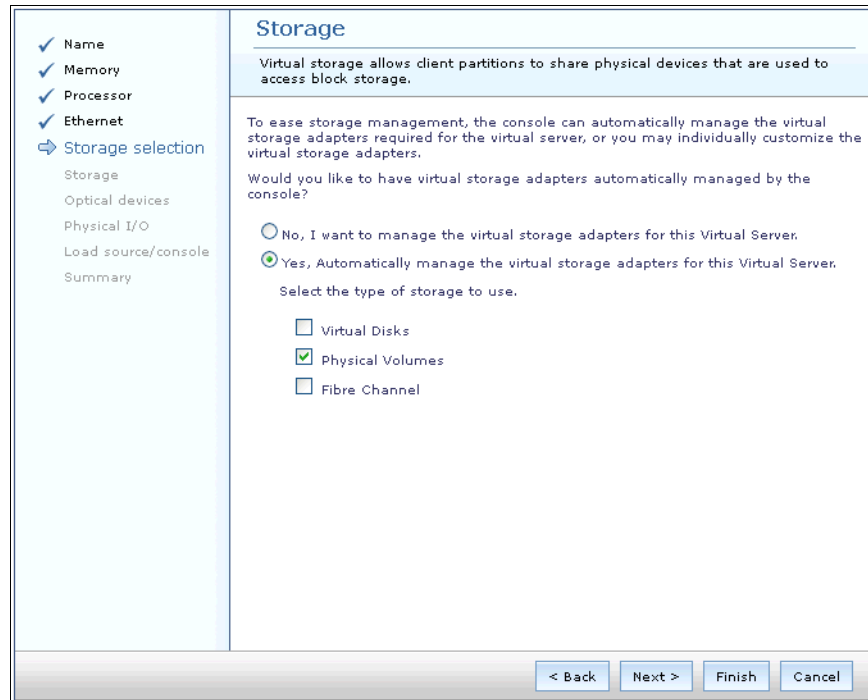

Figure 11-7 Creating a Virtual Server: Storage selection
6. The wizard continues with Storage, as shown in Figure 11-7 on page 507. For ease of storage management, the console can automatically manage the virtual storage adapters that are required for the virtual server. You also can individually customize the virtual storage adapters. In this instance, we are allowing automatic management of virtual adapters.
The following options are now available to provide storage, as shown in Figure 11-7 on page 507: